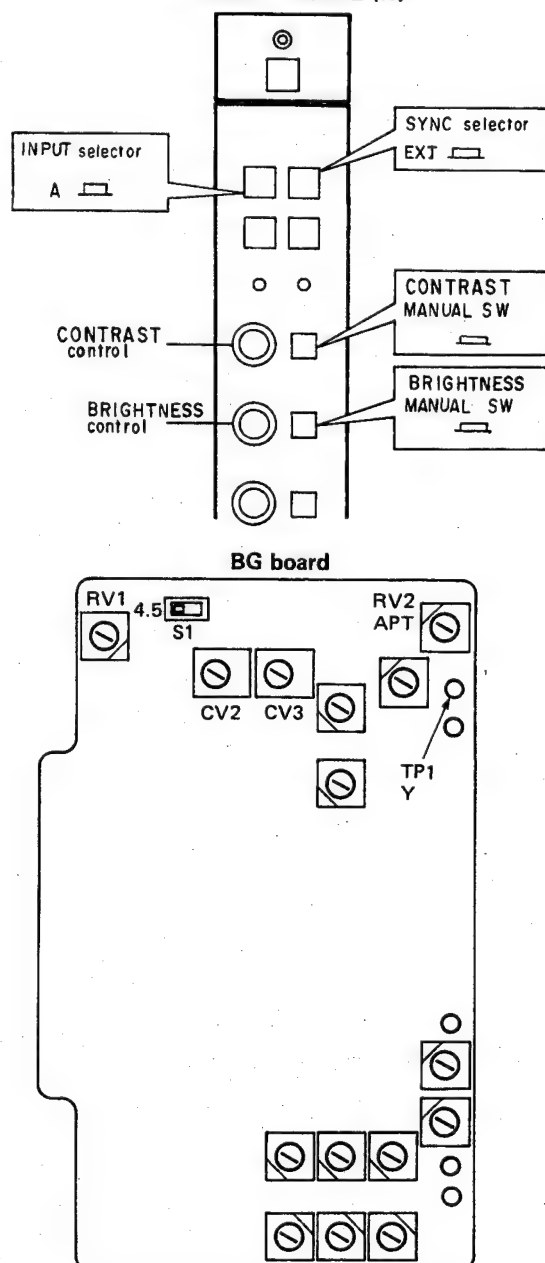

Fig. 5-2
- INPUT selector (FRONT PANEL (R)) A (☐)
- SYNC selector (FRONT PANEL (R)) EXT (☐)
- Adjust RV1, CV2 and CV3 of the BG board so that the output waveform becomes flat in a range of 0 to 10MHz as shown in Fig. 5-2. (within $0 \pm 0.5\text{dB}$)